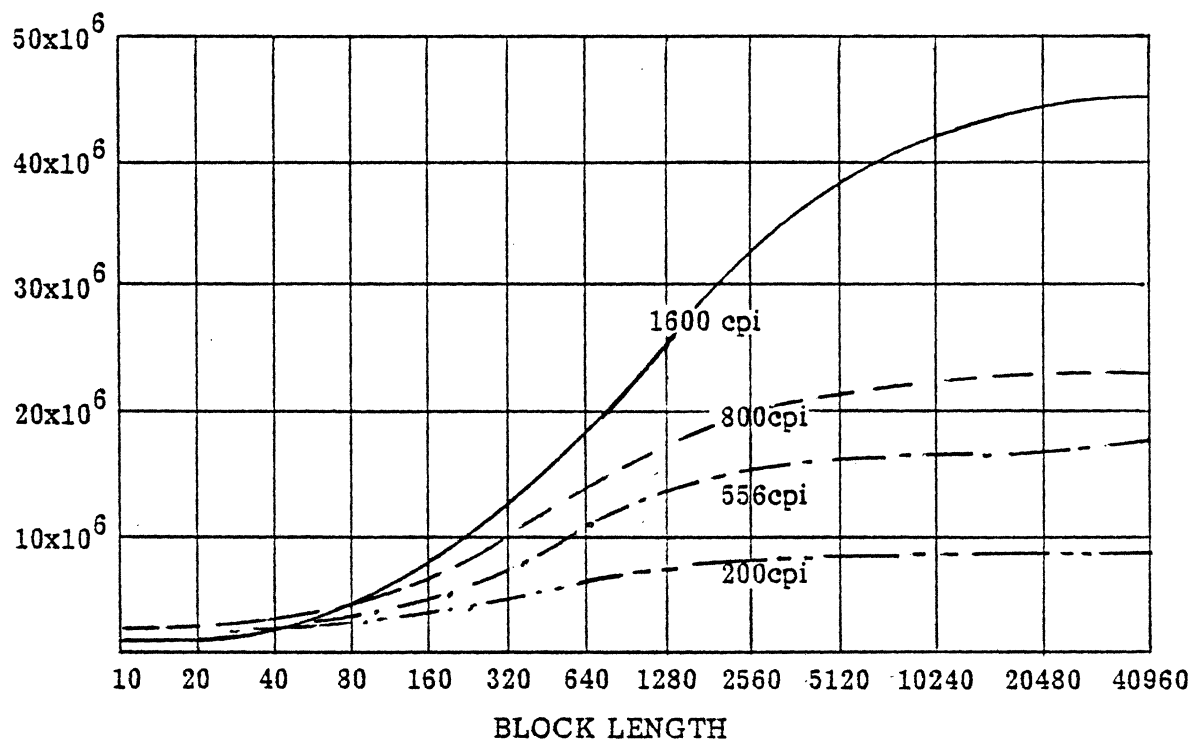

Figure 4-5 Comparison of Packing Density, Phase Encoded and NRZI Formats
4.17 EFFECTIVE TRANSFER RATE. During the actual processing of the data part of a record, the data transfer rate is fixed. However, in a long tape the effective, or average, transfer rate depends somewhat upon record length. Record length determines the percentage of tape taken up by the gaps. At the highest density (1600 bpi) each record gap occupies the space of 960 characters. Figure 4-5 shows the storage capacity of a reel of tape at various record lengths. The effective transfer rate is therefore determined by record length as well as tape speed and density.